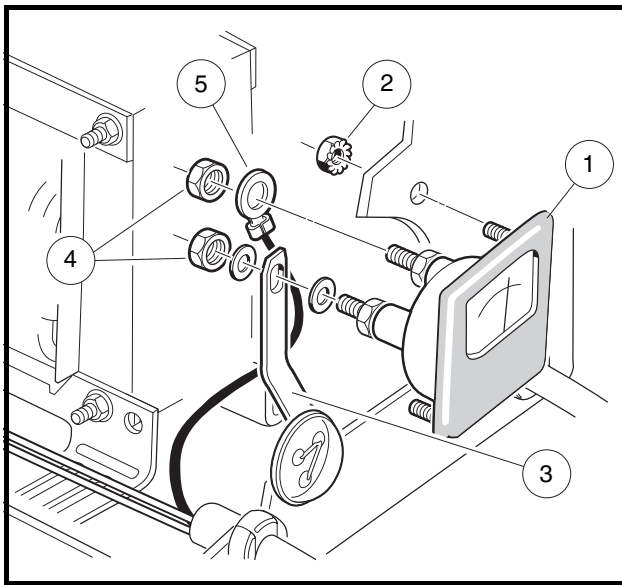

Figure 4-24 Ammeter
3. Disconnect the black wire from the DC cord (5), and the buss bar (3) from the ammeter (**Figure 4-24, Page 4-27**).
4. Remove the two nuts (2) that secure the ammeter to the charger face.
1. Place the ammeter in position in the charger face (**Figure 4-24, Page 4-27**).
2. Install nuts (2) and tighten until ammeter is firmly secured.
3. Connect the black wire of the DC cord (5) to the left (as viewed from inside the charger) post of the ammeter.
4. Connect the buss bar (3) from the fuse link to the right post of the ammeter. Place flat washers on both sides of the buss bar.
5. Thread nuts (4) onto both posts of ammeter until just past finger tight. While holding the inside nut, tighten the outside nut (4) 1/4 turn. See following **CAUTION**.
3. Remove both black secondary coil transformer wires and the buss bar (3) from the back of the fuse link assembly (**Figure 4-24, Page 4-27**).
2. Install the buss bar (3) over the center branch of the fuse assembly and ammeter post (**Figure 4-24, Page 4-27**). Tighten to 22 in-lb (2.5 N·m).